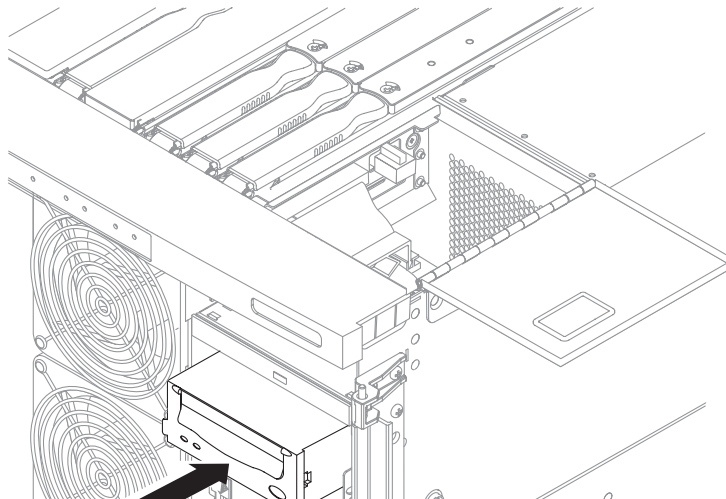

FIGURE 5-15 Inserting a Tape Drive into the System
- 7. Install the new drive.** Insert it into the system until the metal latch on the left side engages (FIGURE 5-15).